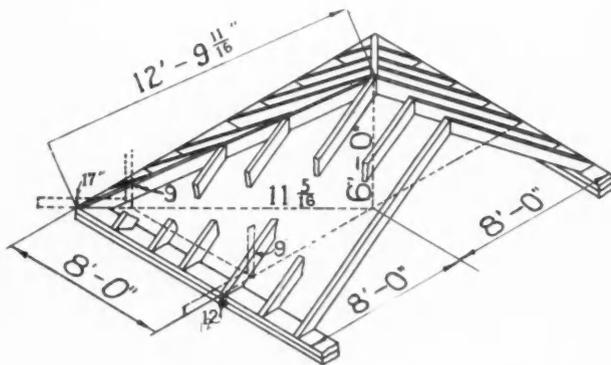

Fig. 26. Illustrating the Hip Roof Used in a Problem in This Lesson.
**I**N order to get a clear understanding of the difference between the common rafter and the hip rafter we will figure the lengths and cuts for the common rafter and also for the hip rafter of the roof shown in Fig. 26.
As explained in our last discussion we may also find the length of the hip rafter by the length per foot run method. The run of the hip is 16.97 inches, usually stated 17 inches, for every foot run of the common rafter. This is also shown in Fig. 26 by the two steel squares. On one 12 inches are taken on the blade and on the other 17 inches.
The square at the lower end of the hip rafter in Fig. 26 shows how the seat cut is obtained. The number taken on the tongue is the same as is used for obtaining the cuts for the common rafter. That is, take the rise per foot run, which is 9 inches in this case, on the tongue. On the